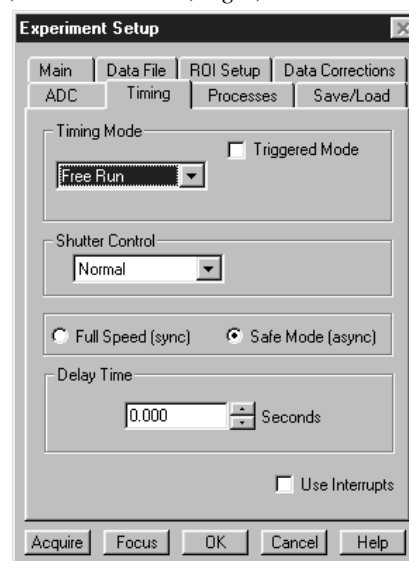

Figure 43. Experiment Setup: Timing tab page
3. On the **Timing** tab page (Figure 43) set the following parameters.